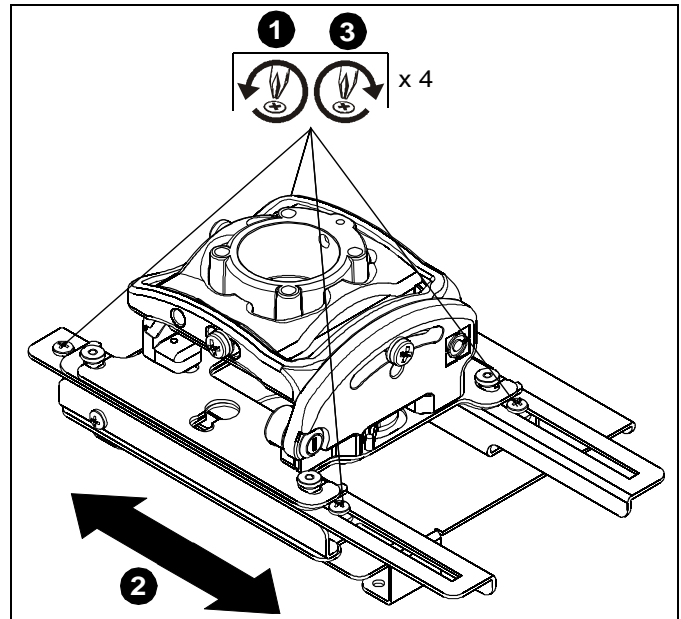

Figure 6
1. Loosen two Phillips screws on each LSB101 bracket (A and B). (See Figure 6)
3. Tighten the Phillips screws as needed. (See Figure 6)